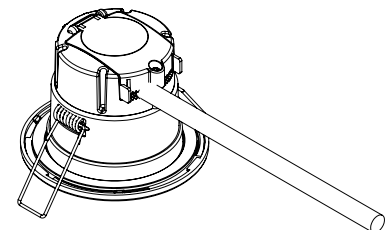
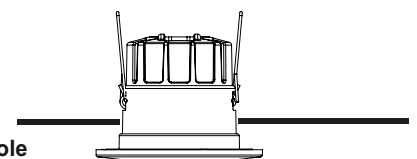

Fig. 4
Fig. 5
- Fit the downlight into the hole (see fig. 4) in the ceiling with the 2 spring clips supplied. (see fig. 5)